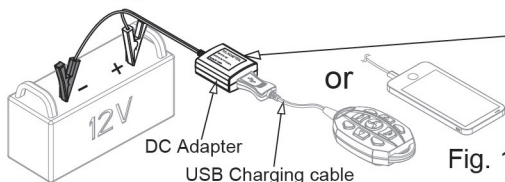
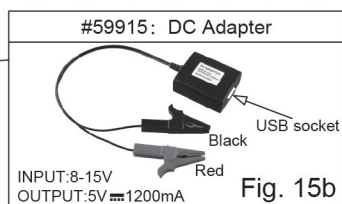

Fig. 15c
Fig. 15b
3. If you want, you can buy your item: #59915 DC Adapter (as Fig. 15b) to charge the remote and smartphone. (Fig. 15c)